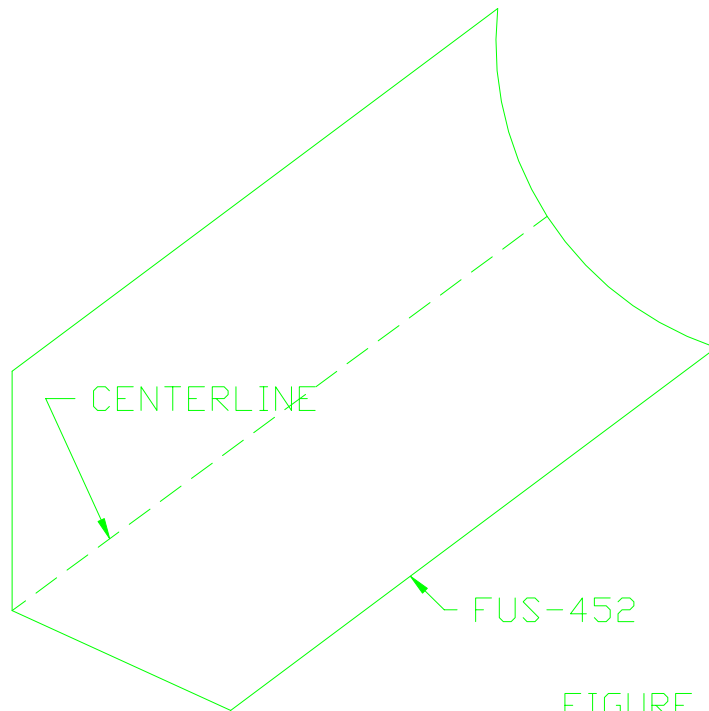

FIGURE 8
- 35) Draw a line down the center of a FUS-452 tapered corner panel Figure 8.